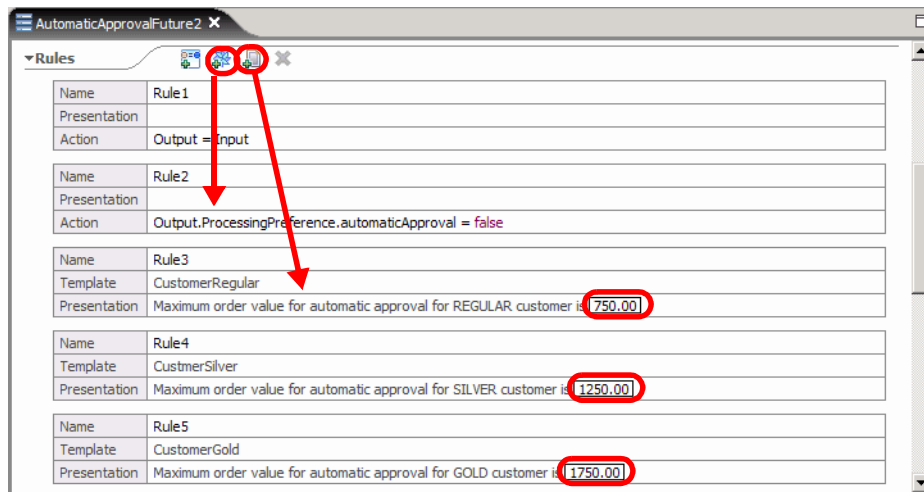

Figure 15-7 Business rule for automatic approval
- ▶ Add three *template* rules using the  icon. For each rule select one of the templates. Enter the initial value for the variable (total price). The final business rules are shown in Figure 15-7.